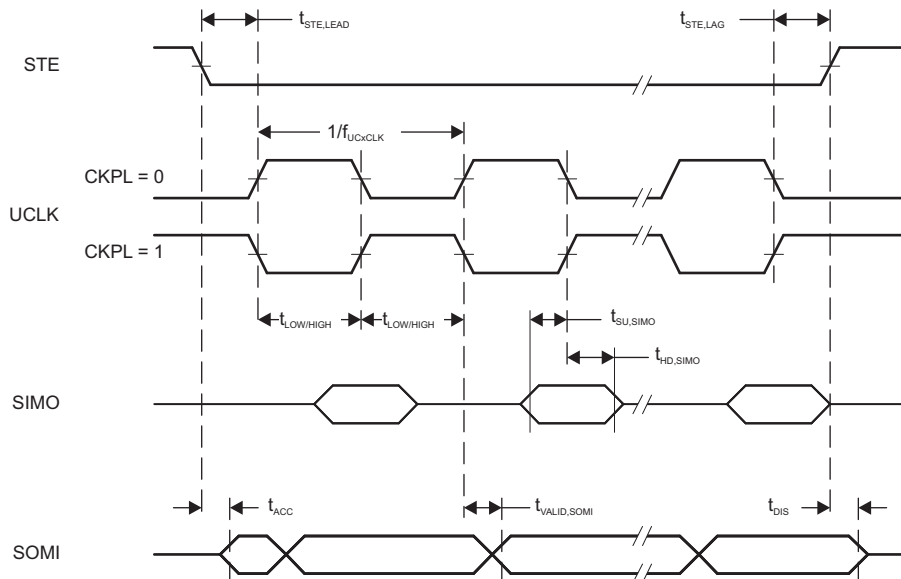
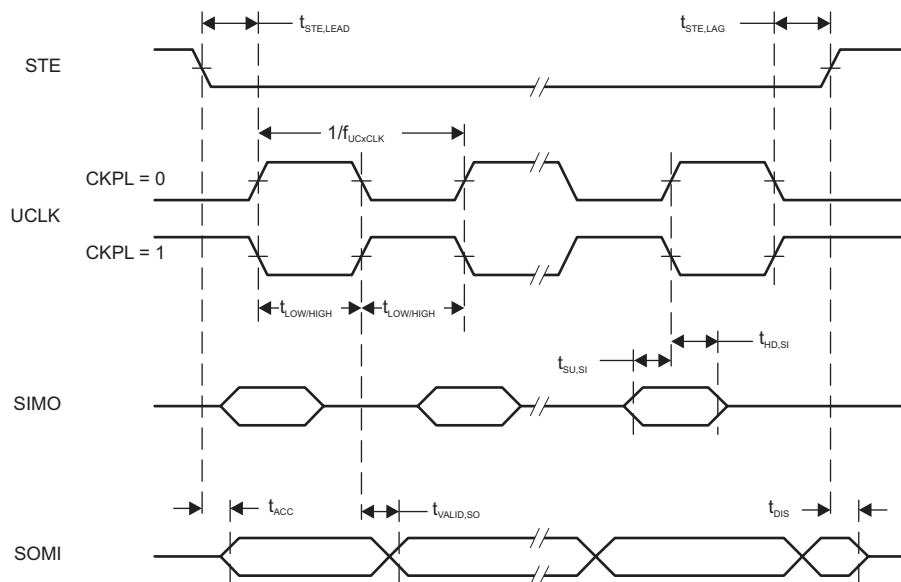

图 5-13. SPI Slave Mode, CKPH = 0
图 5-14. SPI Slave Mode, CKPH = 1
- (2) Specifies the time to drive the next valid data to the SOMI output after the output changing UCLK clock edge. See the timing diagrams in 图 5-13 and 图 5-14.
- (3) Specifies how long data on the SOMI output is valid after the output changing UCLK clock edge. See the timing diagrams in 图 5-13 and 图 5-14.